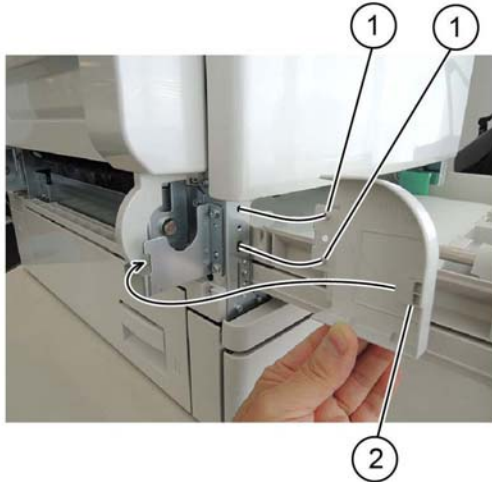

Figure 2 Hinge front cover removal
3. Pull out the bossed (1) from the mounting holes. Release the hook (2), then remove the hinge front cover, Figure 2.